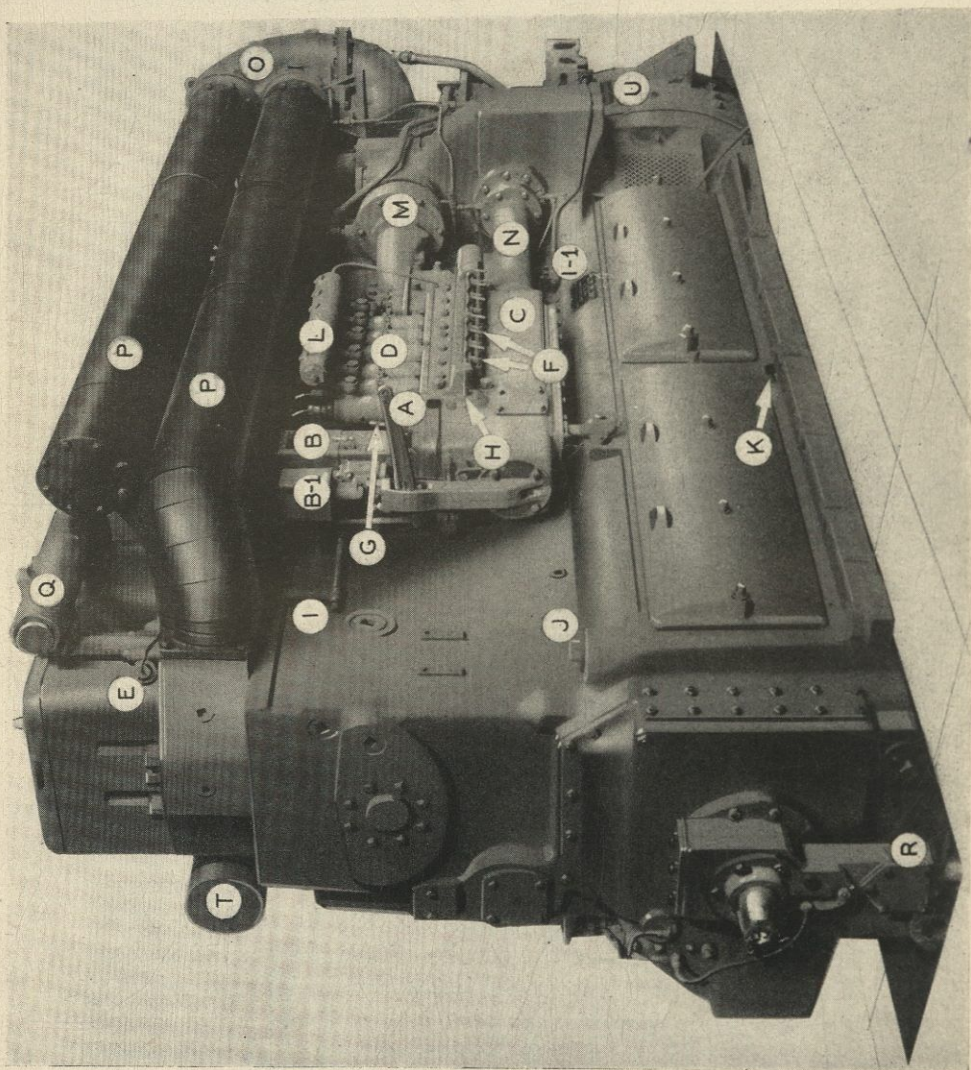
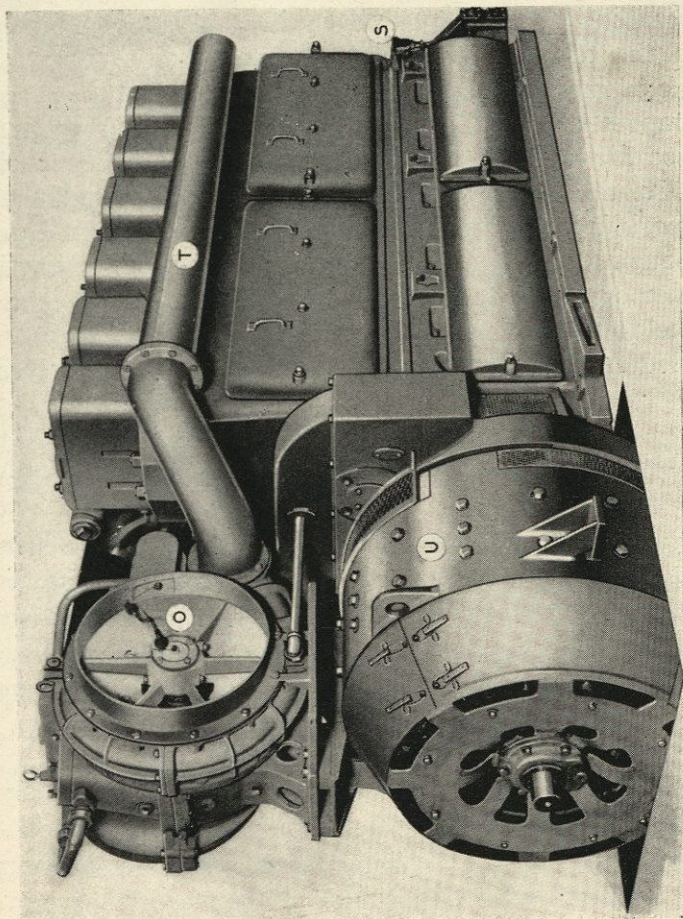
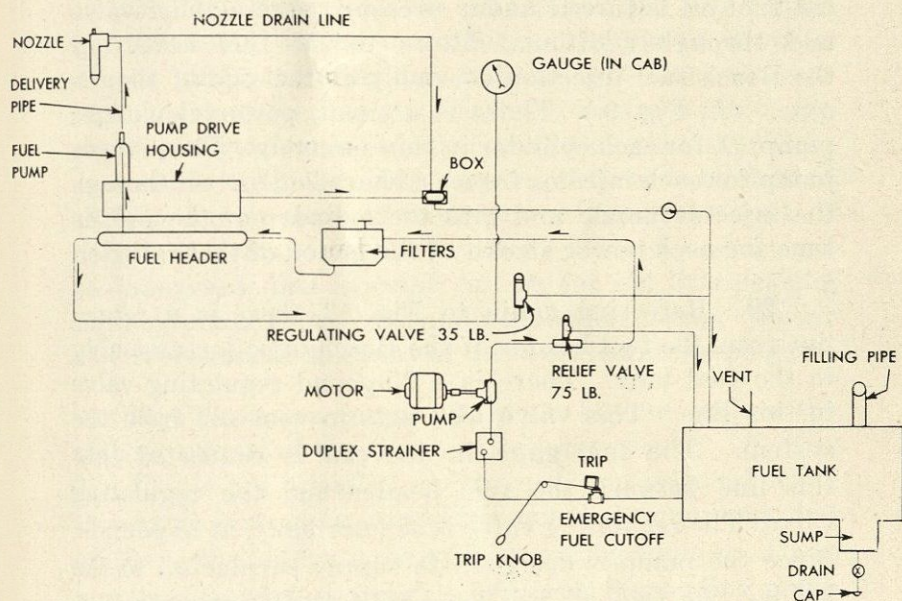

Fig. 9
Fig. 10
Fig. 13
7. The power plant of the 1000 horsepower switcher is illustrated in Figs. 9 and 10. When this power plant is in place, the side of the engine shown in Fig. 9 is at the left side of the locomotive and the side shown in Fig. 10 is at the right side of the locomotive. Certain parts of the engine are numbered and named in the figures.
S—Lubricating oil low pressure stop switch (Fig. 10)
27. The fuel oil circuit is shown in Fig. 13. This sketch is known as a schematic diagram, that is, it shows the various parts and pipes without much reference to piping details or to the actual size or location of each part. There is a sump at the bottom of the fuel oil tank into which water, dirt, or sludge can sink. There is a drain valve below this sump, but the drain pipe is capped
28. A pipe leads from near the bottom of the fuel oil tank through a duplex strainer and the emergency cutoff valve to the main fuel oil pump.* This pump is driven by its own motor. When the pump is operating, the fuel oil is forced under pressure past a relief valve and through additional filters to the fuel header of the Bosch fuel injection assembly at the side of the engine. (*L*, Fig. 9.) There is a small, powerful plunger pump, *D*, for each cylinder in this assembly. The plunger pump for each injector forces a charge of fuel oil through the injector nozzle and into the cylinder at the proper time for each power stroke of the piston of that cylinder.
29. Referring again to Fig. 13, there is a return line from the fuel header of the Bosch injection assembly to the fuel tank. There is a 35-pound regulating valve in this line. This valve also acts to vent air from the system. The fuel gage in the cab is connected into this line between the fuel header and the regulating valve. The regulating valve is set, normally, at 35 pounds. Since the pump is designed to supply surplus oil to the header, the fuel oil will keep this regulating valve unseated as it flows through it back to the tank. The fuel gage in the cab indicates the setting of this valve. The 75-pound relief valve near the pump has a pipe from its discharge port to the fuel tank.
*On some locomotives the duplex strainer is beyond the emergency cutoff valve, as shown in Fig. 13.
engine. There are three of these boxes. (One can be seen at *I*, Fig. 9.) Each box receives the drain from two nozzles. These three boxes in turn drain into a main drain box, *I-1*, Fig. 9. (Only the main drain box is indicated in Fig. 13.) Another drain pipe leads from the plunger pump section of the Bosch assembly to this main drain box. The main drain box drains directly into the fuel oil tank.
32. There is a cutout pin at the base of each of the plunger pumps of the Bosch injection assembly (*F*, Fig. 9). If this pin is pulled out, turned, and released while the engine is running, it will cut out that pump and shut off the fuel injection to the corresponding cylinder. These pins must be latched properly or the corresponding pump will not operate.
33. There is a shutdown lever, *G*, Fig. 9, alongside the plunger pumps that can be operated by hand or automatically by the overspeed safety device to shut down all of these plunger pumps and thus stop the engine. In case of such a shutdown, each stop pin must be pulled out and latched by hand before the engine can be restarted. Resetting requires two operations. First, the pins must be pulled out and turned until the finger of each pin rests on top of the cutout rack. This is so that the spring will not pull the pin back in again. When all
39. The path of the engine cooling water is as follows: Water from the expansion tank keeps the radiators full. Water from the bottom of the radiators flows through a return line to the engine block and through a passage inside the engine block to the water pump. (M. Fig. 9.) The water pump is driven by gears from the
41. The cooling water system also has a connection from the water pump to the turbo-charger (see Fig. 9). The turbo-charger is driven by exhaust gases from the engine. The gas turbine end of the turbo-charger has to be cooled. The water which flows through the cooling passages of the turbo-charger is piped back to the engine block and flows with the cooling water through the engine cooling spaces.